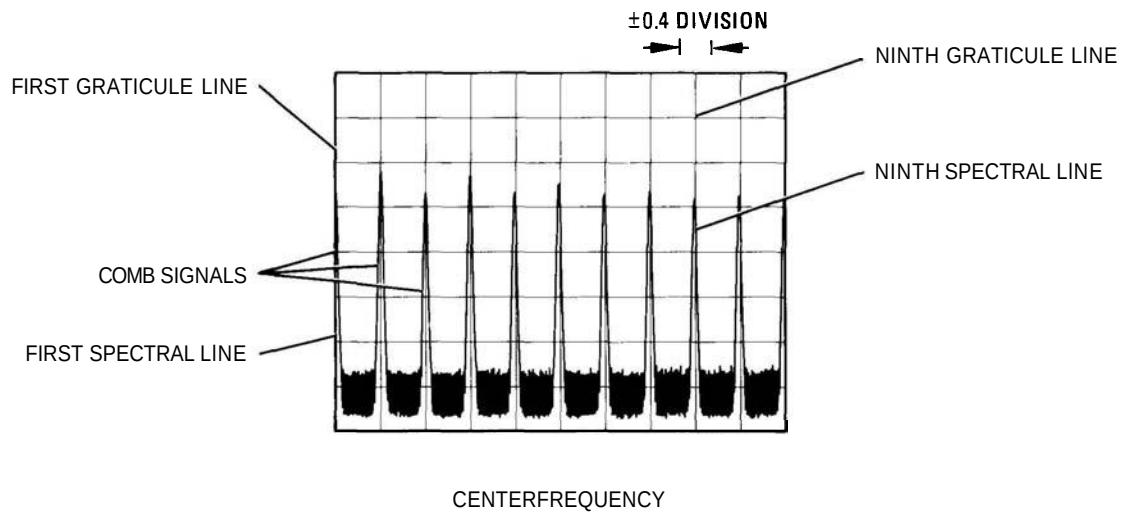

FIGURE 4-3. FREQUENCY SPAN ACCURACY MEASUREMENT FOR NINTH SPECTRAL LINE
6. Set comb generator **COMB FREQUENCY**—MHz for 10-MHz comb. Set spectrum analyzer **FREQ SPAN/DIV** to 20 MHz. Adjust TUNING control to position one spectral line on the first graticule line. Measure the error between 17th spectral line and ninth graticule line as shown in Figure 4-3. Error should be no greater than ± 0.4 division.